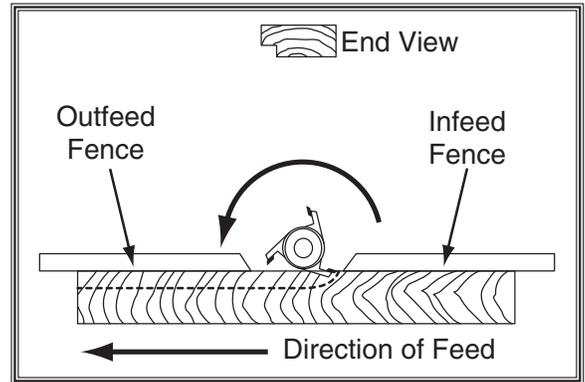

Figure 34. Fence set up for partial-edge removal.
Also, examine the grain on the side edge of the board. Whenever possible, run the board so the shaper cutters are cutting with the grain, as shown in **Figure 34**. This will minimize the chance of tear-out.
4. Adjust outfeed fence so that it comes into alignment with infeed fence, as shown in **Figure 34**.